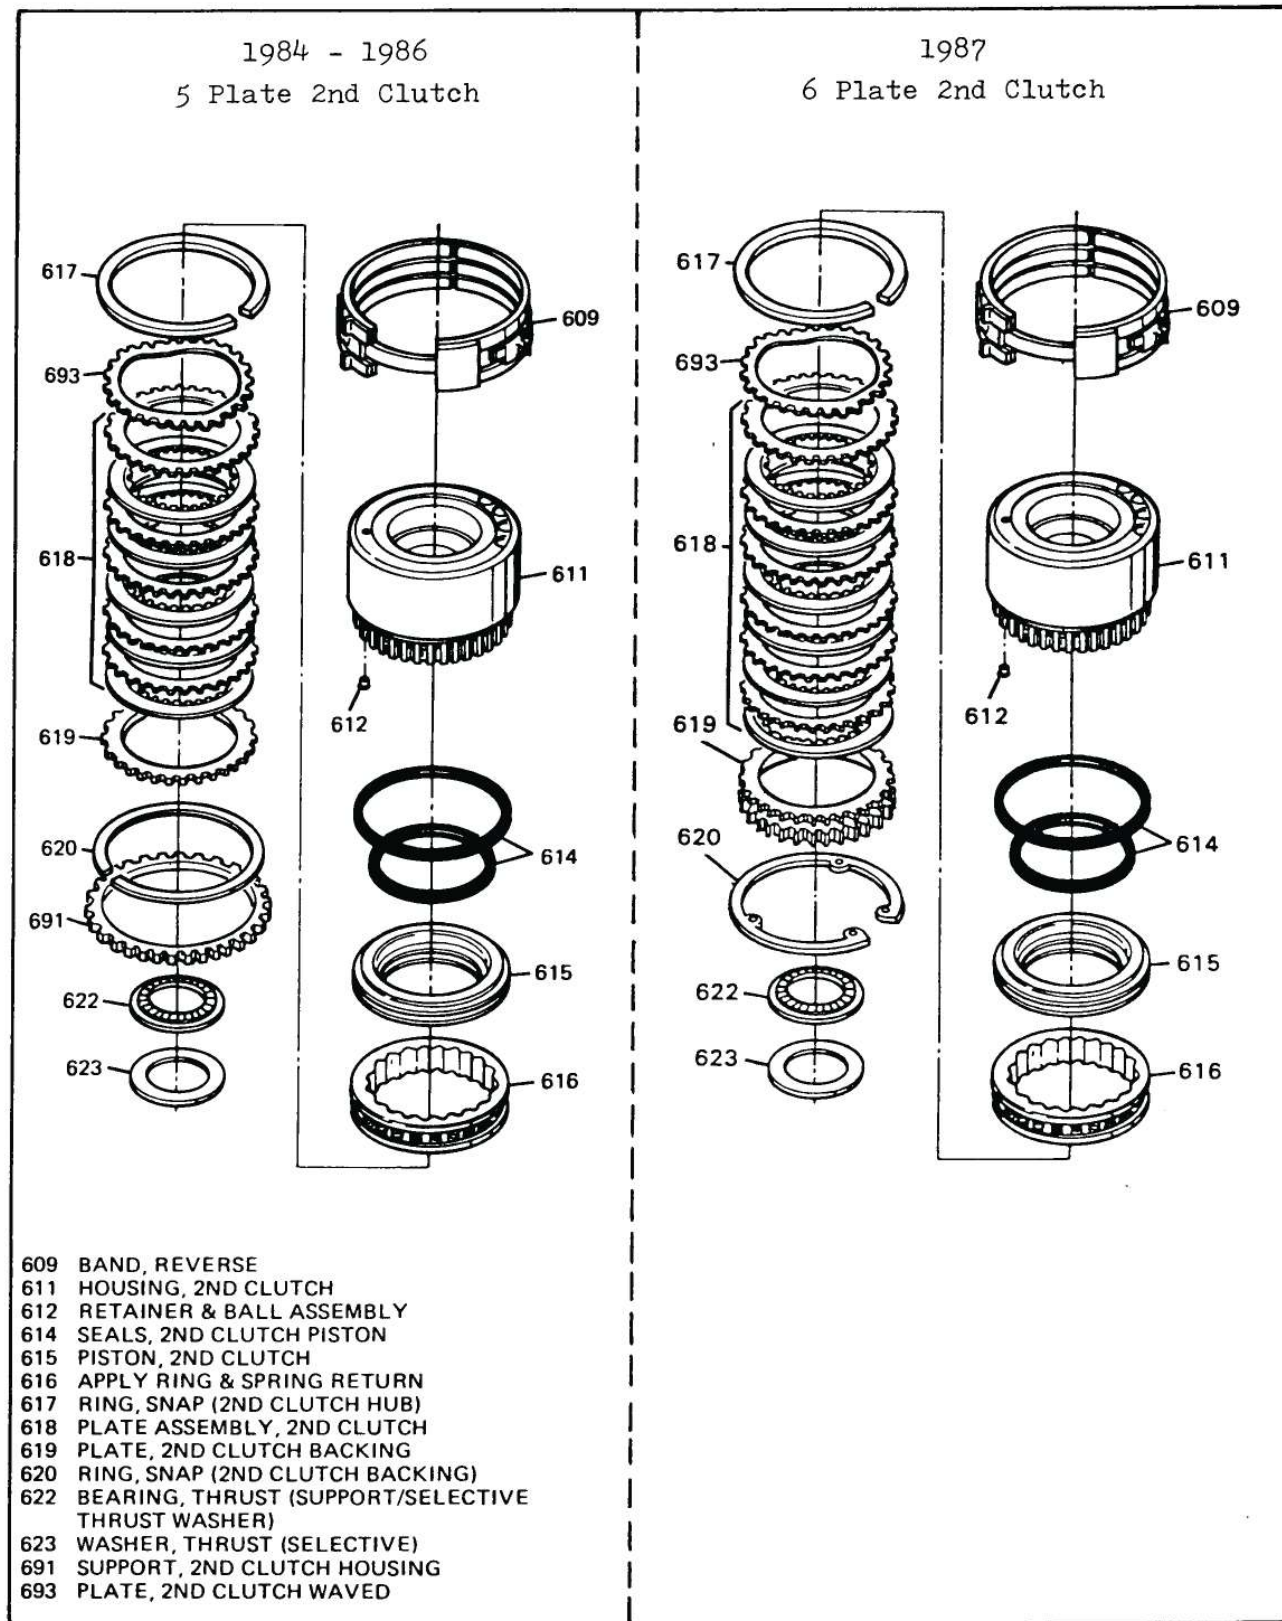

Figure 32
The second change on the second clutch housing occurred at the start of production for the 1987 models (August, 1986). They increased the capacity of the 2nd clutch by going to a 6 plate clutch pack instead of 5 (Compare in Figure 32).
- 4) Backing Plate - Redesigned to incorporate backing plate(619), support ring(691), and snap ring(620) into one assembly. (See Figure 32).